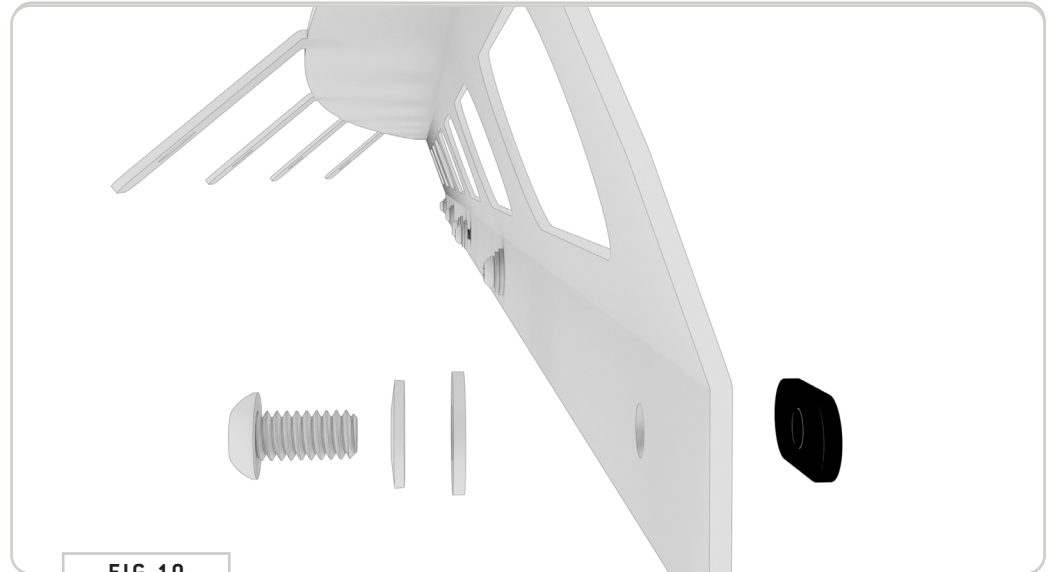

FIG 10
**4.1 Crossbar Fairing Bracket:** Stack a 1/4-20" x 0.5 Button Head Screw, 1/4" Belleville Lock Washer and 1/4" Flat Washer as shown in FIG 10 and insert into the six available front holes of the **Crossbar Fairing Bracket**. Loosely assemble using a **T-Nut**. You'll only want to screw the **T-Nuts** on a little in order to provide clearance for the next step.